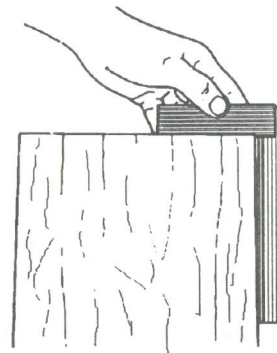

Fig. 10
18. Place a precision square against the cross-cut end and the edge, as seen in Fig. 10. If the board is not square, repeat Steps 10–17.